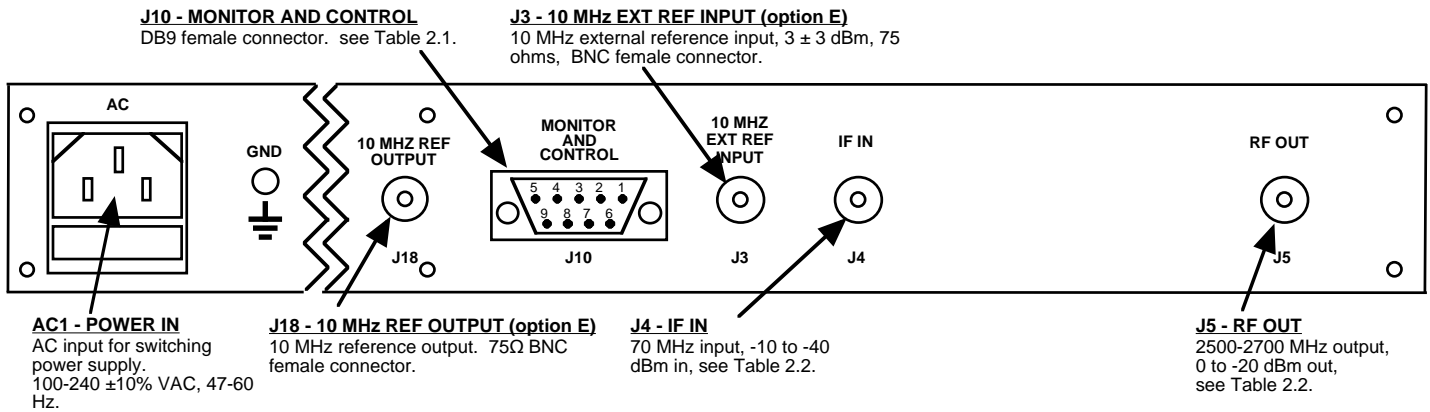

FIGURE 2.2 2015-27 Rear Panel I/Os
2.2 Rear Panel Input/Output Signals - Figure 2.2 shows the input and output connectors on the rear panel.
1. Connect a -40 dBm to -10 dBm signal to IF In, J4 (Figure 2.2)